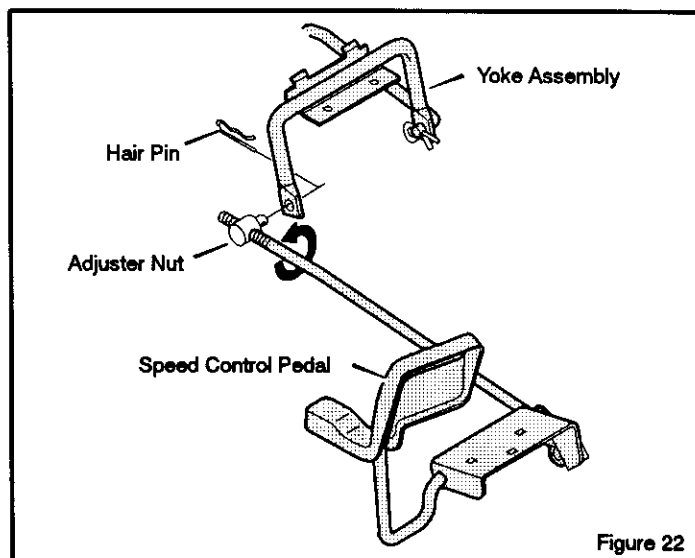

Figure 22
3. Remove the hair pin from the adjuster nut (Figure 22). Disconnect the adjuster nut from the yoke assembly.
4. Rotate the adjuster nut *one turn* in the direction shown in Figure 22.